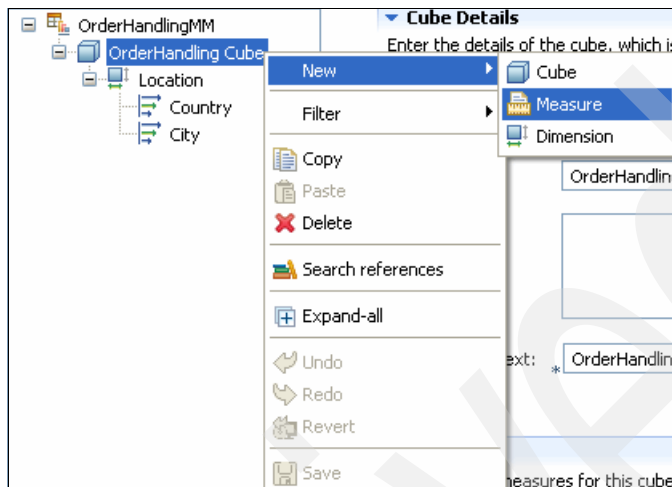

Figure 8-119 Adding a measure
6. Right-click **OrderHandling Cube** and select **New** → **Measure** (Figure 8-119) to add a measure. We define the aggregate measure to calculate the sum of shipped orders.